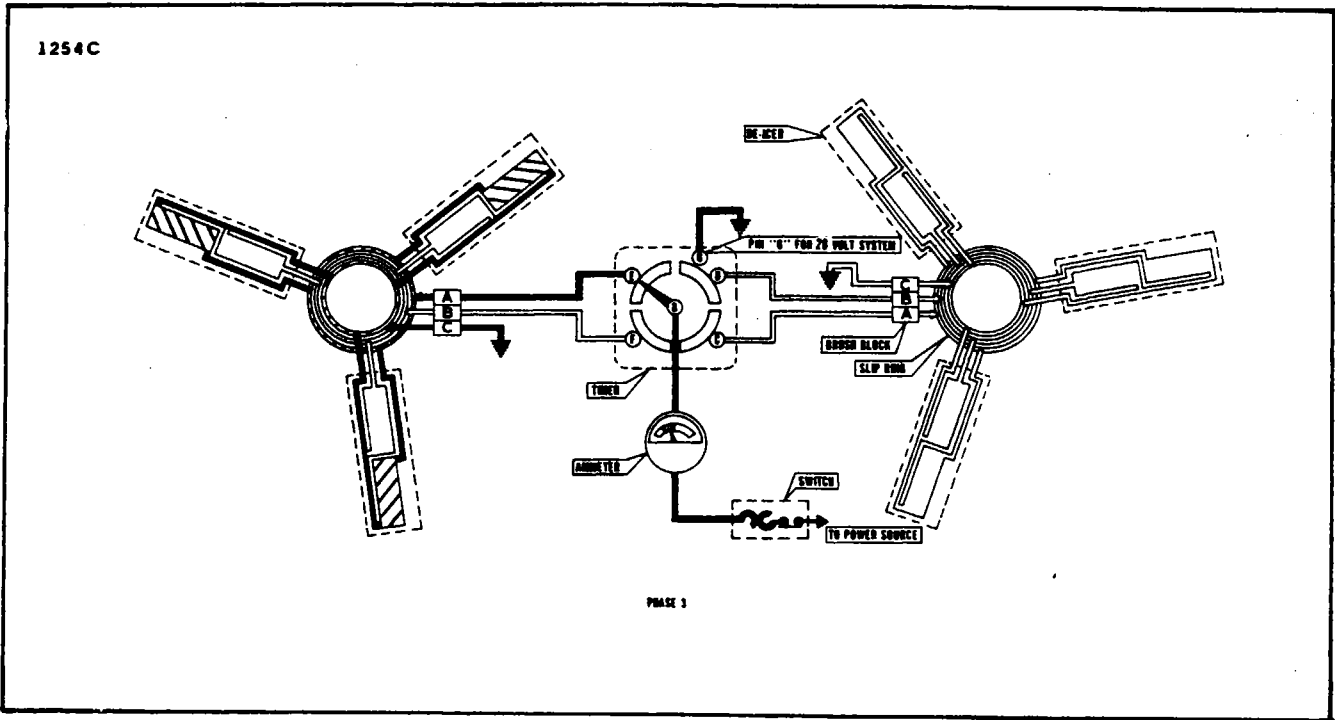

Figure 14-10. Electrical Diagram Showing Cycle Sequence, Three Blades
- j. Place tubing over the brush lead. (Refer to Figure 14-10.) Soft solder the brush leads to the appropriate pin in the connector plug. Wicking on the leads should be held to .125 maximum.